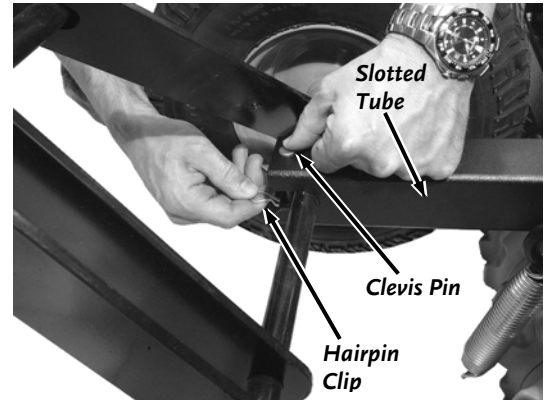

Figure 24
5. Insert the Clevis Pins into the holes at the ends of the Slotted Tubes from the top and secure the Clevis Pins with Hairpin Clips (**Figure 24**).